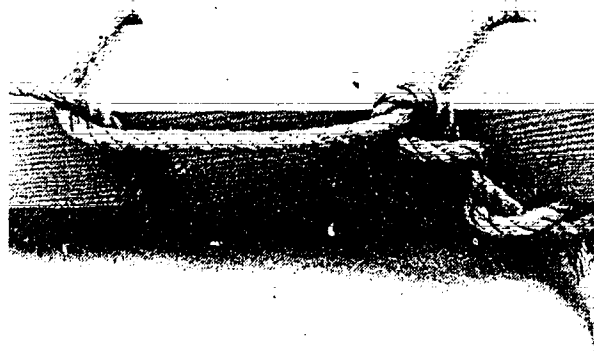

Figure 7-24. Tying a Timber Hitch and Half Hitch
7. A **timber hitch and half hitch** provides a more secure hold on heavy poles or timbers for lifting or hauling. This involves tying one or two half hitches around the load, and further along tying a timber hitch with the running end of the line (Figure 7-24).